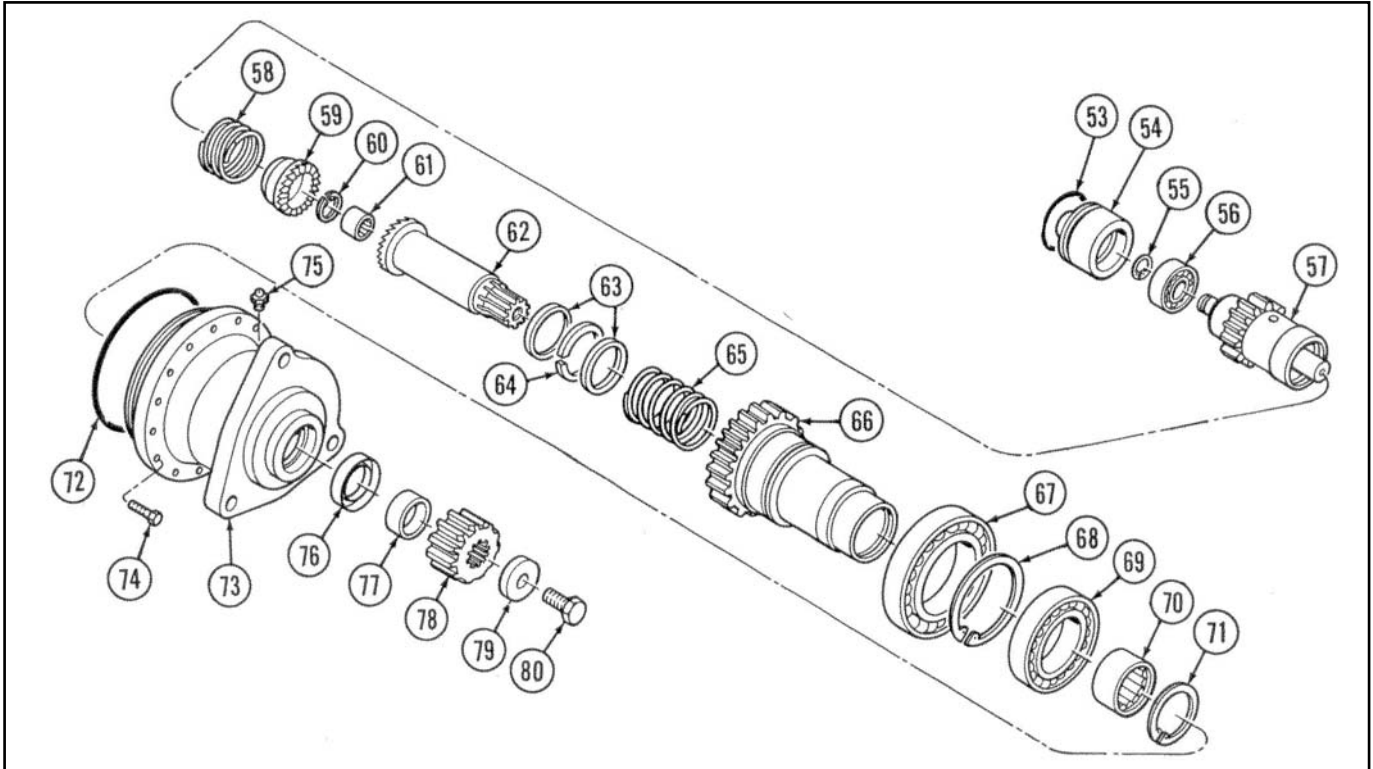

Figure 5. Drive Assembly
The drive assembly, refer to figure 5, consists of a piston (53), helical shaft spline (56), dental clutch (58) and drive pinion shaft (61). The clutch assembly (56 thru 64) is installed into the spur gear (65). The spur gear (65) is supported by the aft bearing (66), which is secured by the retaining ring (67).